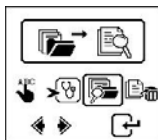

Fig.71
1. Select **View Test Report from memory** by scrolling the  key to  and press  See display below (Fig.71):